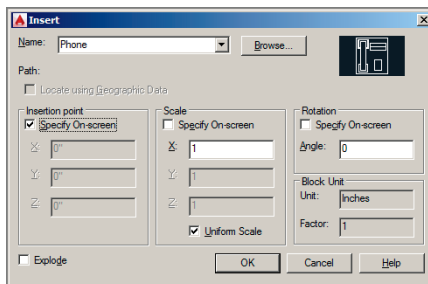

FIGURE 7.19 Inserting a phone block
3. Type **I** (for Insert), and press Enter. Select **Phone** in the Name drop-down list. Deselect **Specify On-Screen** in the Scale and Rotation sections of the Insert dialog box and click OK (see Figure 7.19).